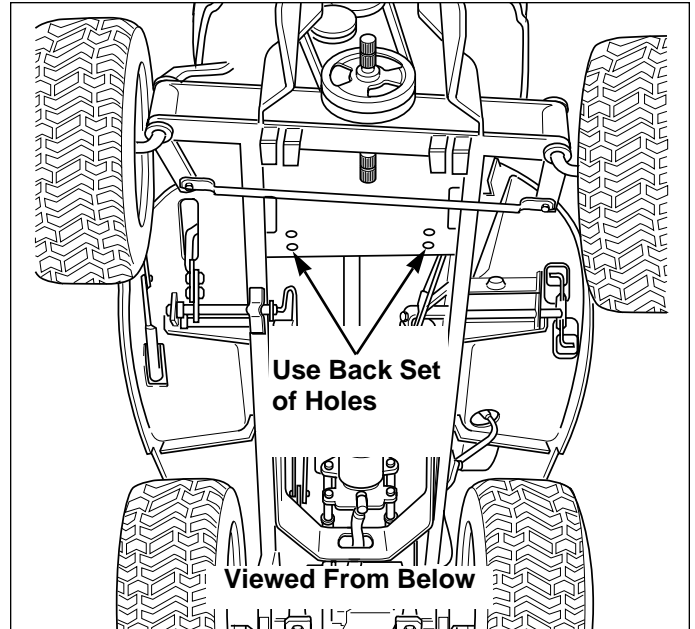
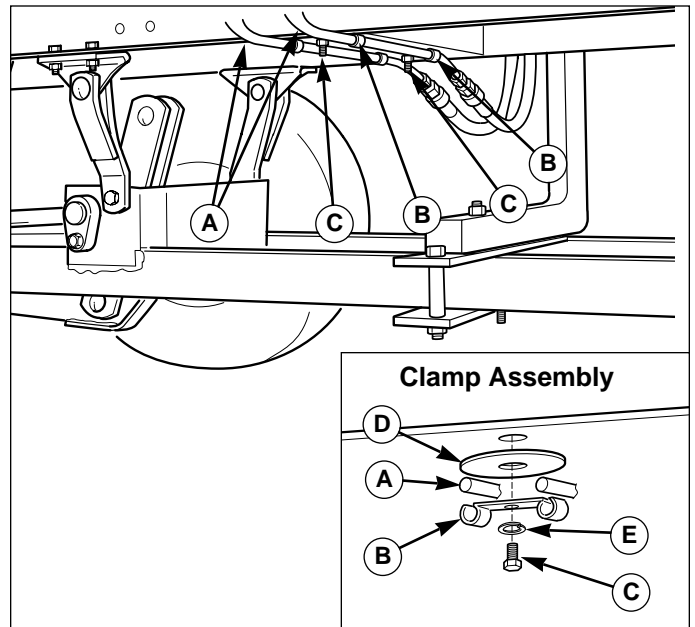

Figure 21. Mounting Hole Location
Figure 22. Secure Cross-Over Tubes
- a. Remove the two taptite screws (C, Figure 22) located in the rear holes (see Figure 21) and replace with two 5/16-18 x 1" taptite screws.
- b. Secure the hoses using a large washer (D, Figure 22), lock washer (E), and clamp (B) as shown.
- a. Secure the cross-over tubes to the bottom of the tractor using two 5/16-18 x 1" taptite screws (C, Figure 22), large washers (D), lock washers (E), and clamps (B) using the rear set of holes shown in Figure 21.